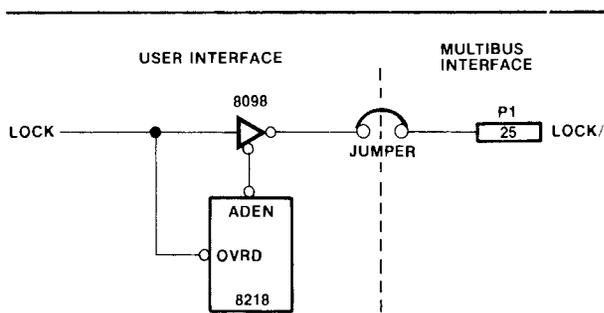

Figure 5-7. LOCK/ Design Example
**5.1.1.5 LOCK.** The Lock signal (LOCK/) informs all modules on the bus that the master has locked the bus for back-to-back cycles on the bus. Figure 5.7 shows a design example for a master. The jumper is provided to allow use with older boards which had advanced acknowledge (AACK/) on P1-25.